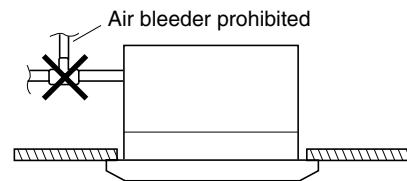

Fig. 3-39
- Do not install an air bleeder as this may cause water to spray from the drain pipe outlet. (Fig. 3-39)